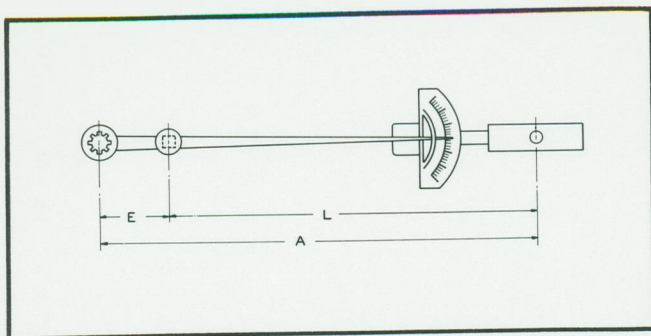

Figure 5-68 Extension on Torque Wrench
17 On occasion it is necessary to use a special extension or adapter wrench together with a standard torque wrench (Figure 5-68). In order to arrive at the resultant required torque limits, the following formula should be used:
- E = Effective length of special extension or adapter (See Figure 5-68).
- L = Effective length of torque wrench (See Figure 5-68).